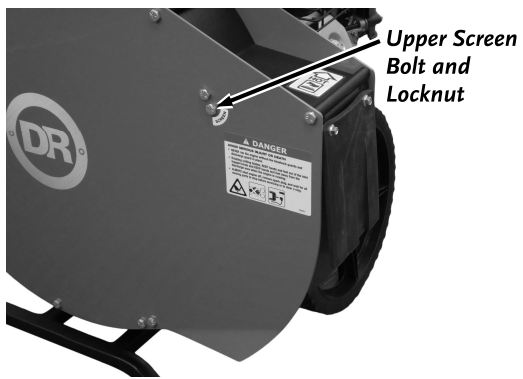

Figure 10
2. Remove the Upper Screen Bolt and Locknut using two 1/2" Wrenches (**Figure 10**).